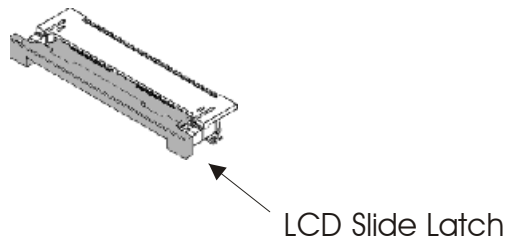

Figure 1: LCD Flex Cable Connector Diagram
3. Disconnect LCD ribbon cable by sliding the black connector latch forward (see Figure 1 for details). Gently slide the flex cable out of the connector.